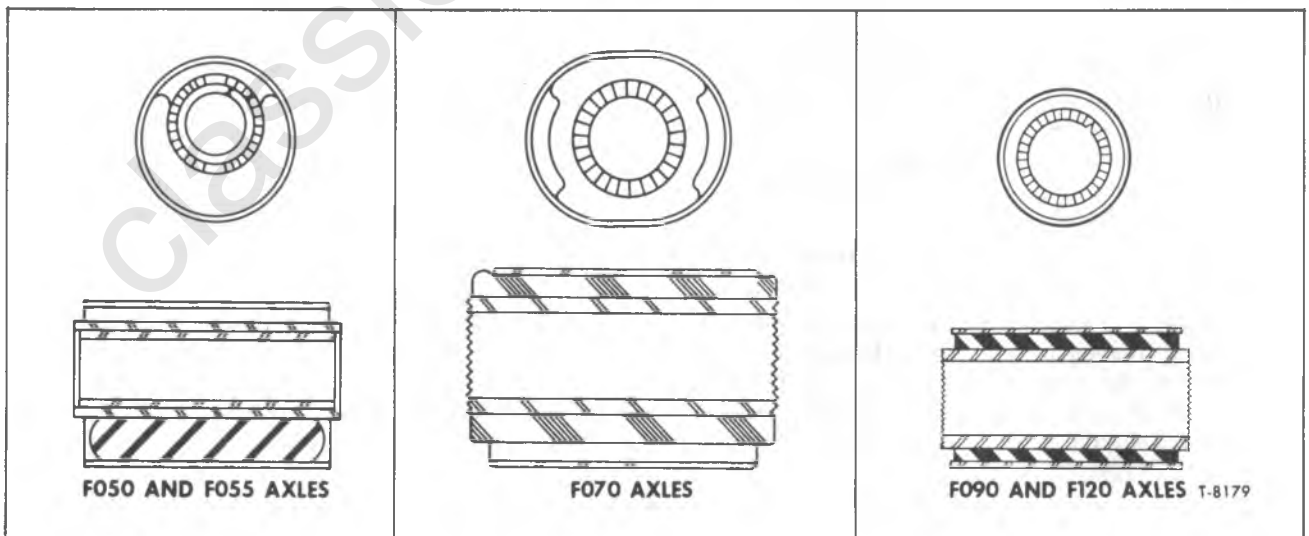

Figure 6—Spring Eye Bushing
Spring eye bushings are rubber-mounted and replaceable on all models. Figure 6 illustrates the three types of spring bushings used with various axles. Rubber-mounted bushings with solid eye bolts require no lubrication.
1. Using installer adapter (J-21978-2) and tools called out in Step 3 of removal procedure, install bushing with offset of bushing at top of spring eye as shown in figure 6.
Removal and installation procedures are the same as outlined for the F-050 and F-055 axle, except use oval adapter (J-21979) for removal and installation of the spring eye bushing (fig. 6).
Remove and replace front eye bushing using bushing remover/installer (J-21058-3) with correct bushing adapter plug. Refer to figure 6 for bushing design.